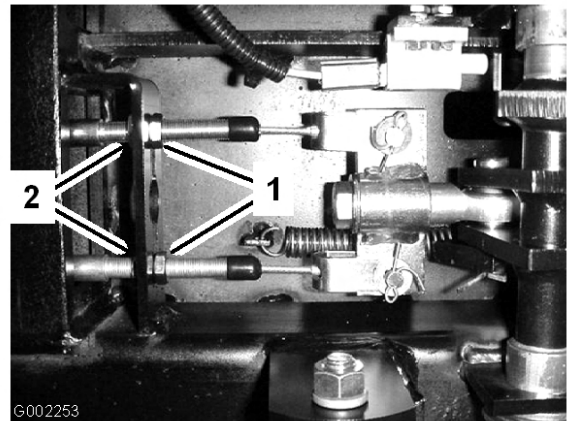

Figure 55
5. Loosen the front nuts on the brake cables under the front end of the sprayer (Figure 55).
6. Tighten the rear nuts equally until the brake pedal moves between 1/2 to 1 inch (1 to 2 cm) before you feel resistance (Figure 55).